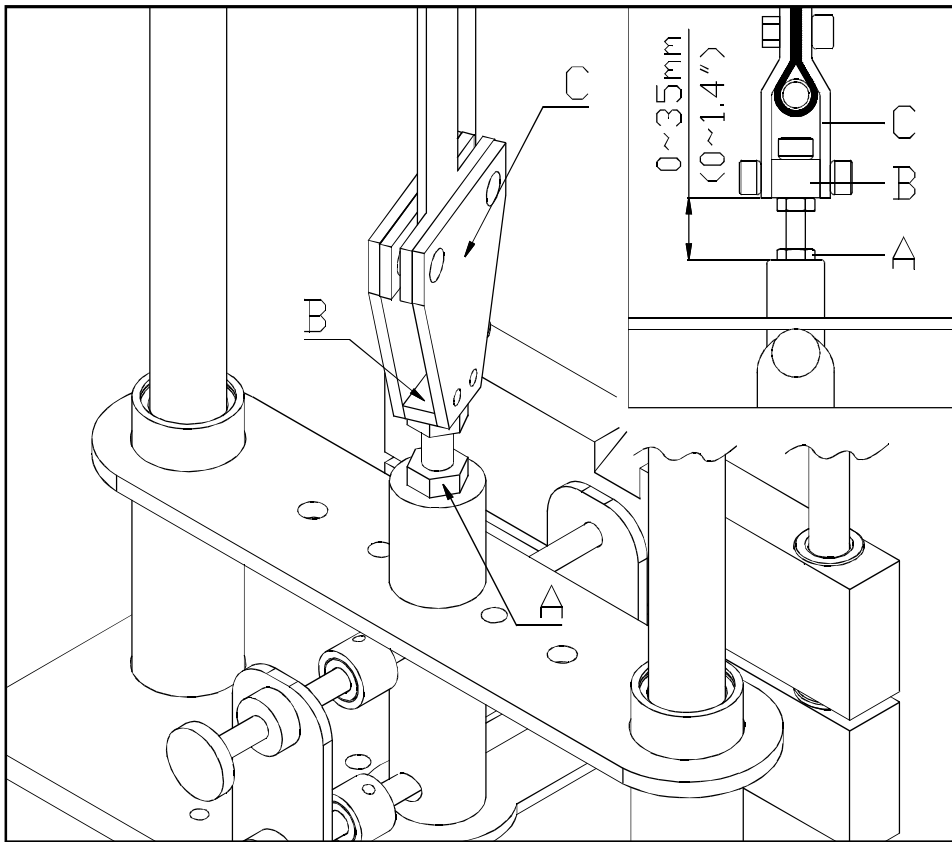

Fig.6
2. The gap between nut A and B must be within 35mm(1.4"). If the gap still exceeds the 35mm limit after the first step, please loosen the screws on C and adjust the belt to the proper length. Tighten the screws and follow the 1st step again. (See fig.6)